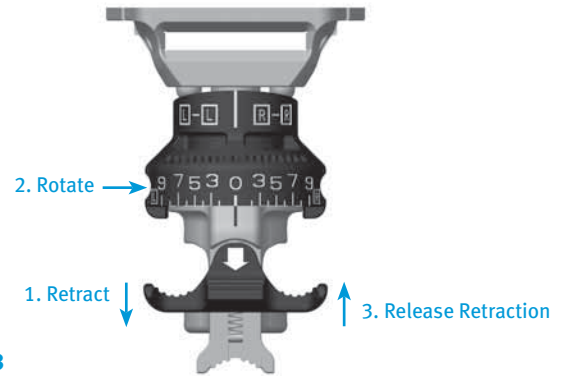

Fig. 123
- Retract the spring-loaded button on the top of the Femoral Valgus Alignment Guide and rotate the valgus adjustment dial to the desired valgus angle and release the button to lock the valgus angle from 0° to 9°, ensuring that the proper left or right setting is attained (Fig. 123).